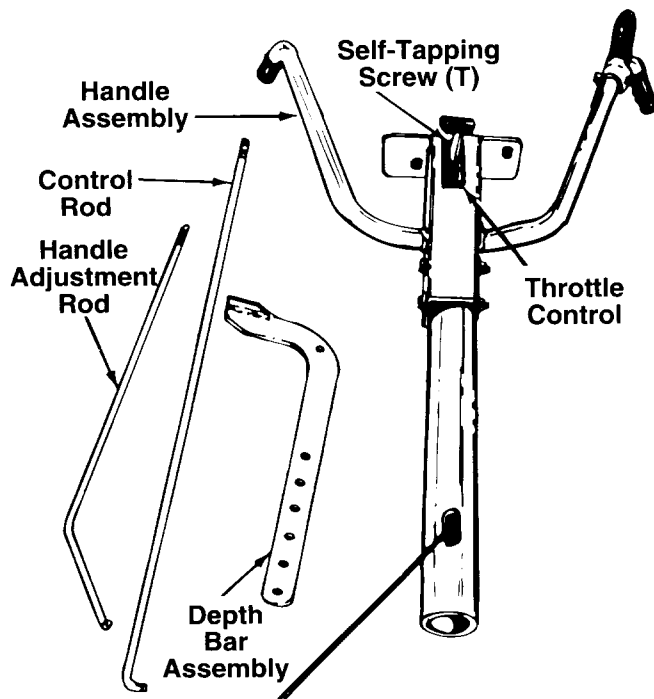

FIGURE 2.
## Loose Parts in Carton: (See Figure 2)
3. Assemble the throttle control to the handle assembly as follows. See figure 2.
- c. Secure the top of the throttle control to the handle assembly with self-tapping screw (T).